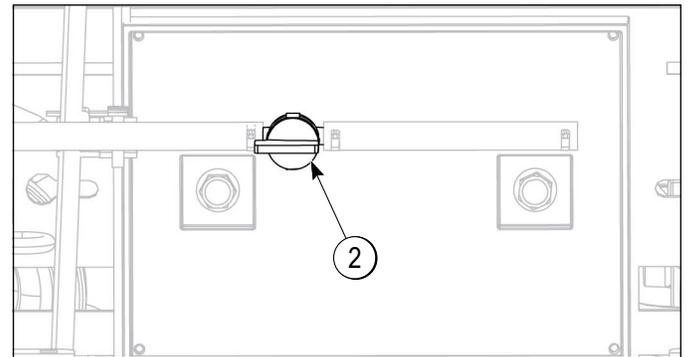

Figure 4-2
4. Rotate the fuel shutoff valve (2) to the open (on) position as shown in Figure 4-2.